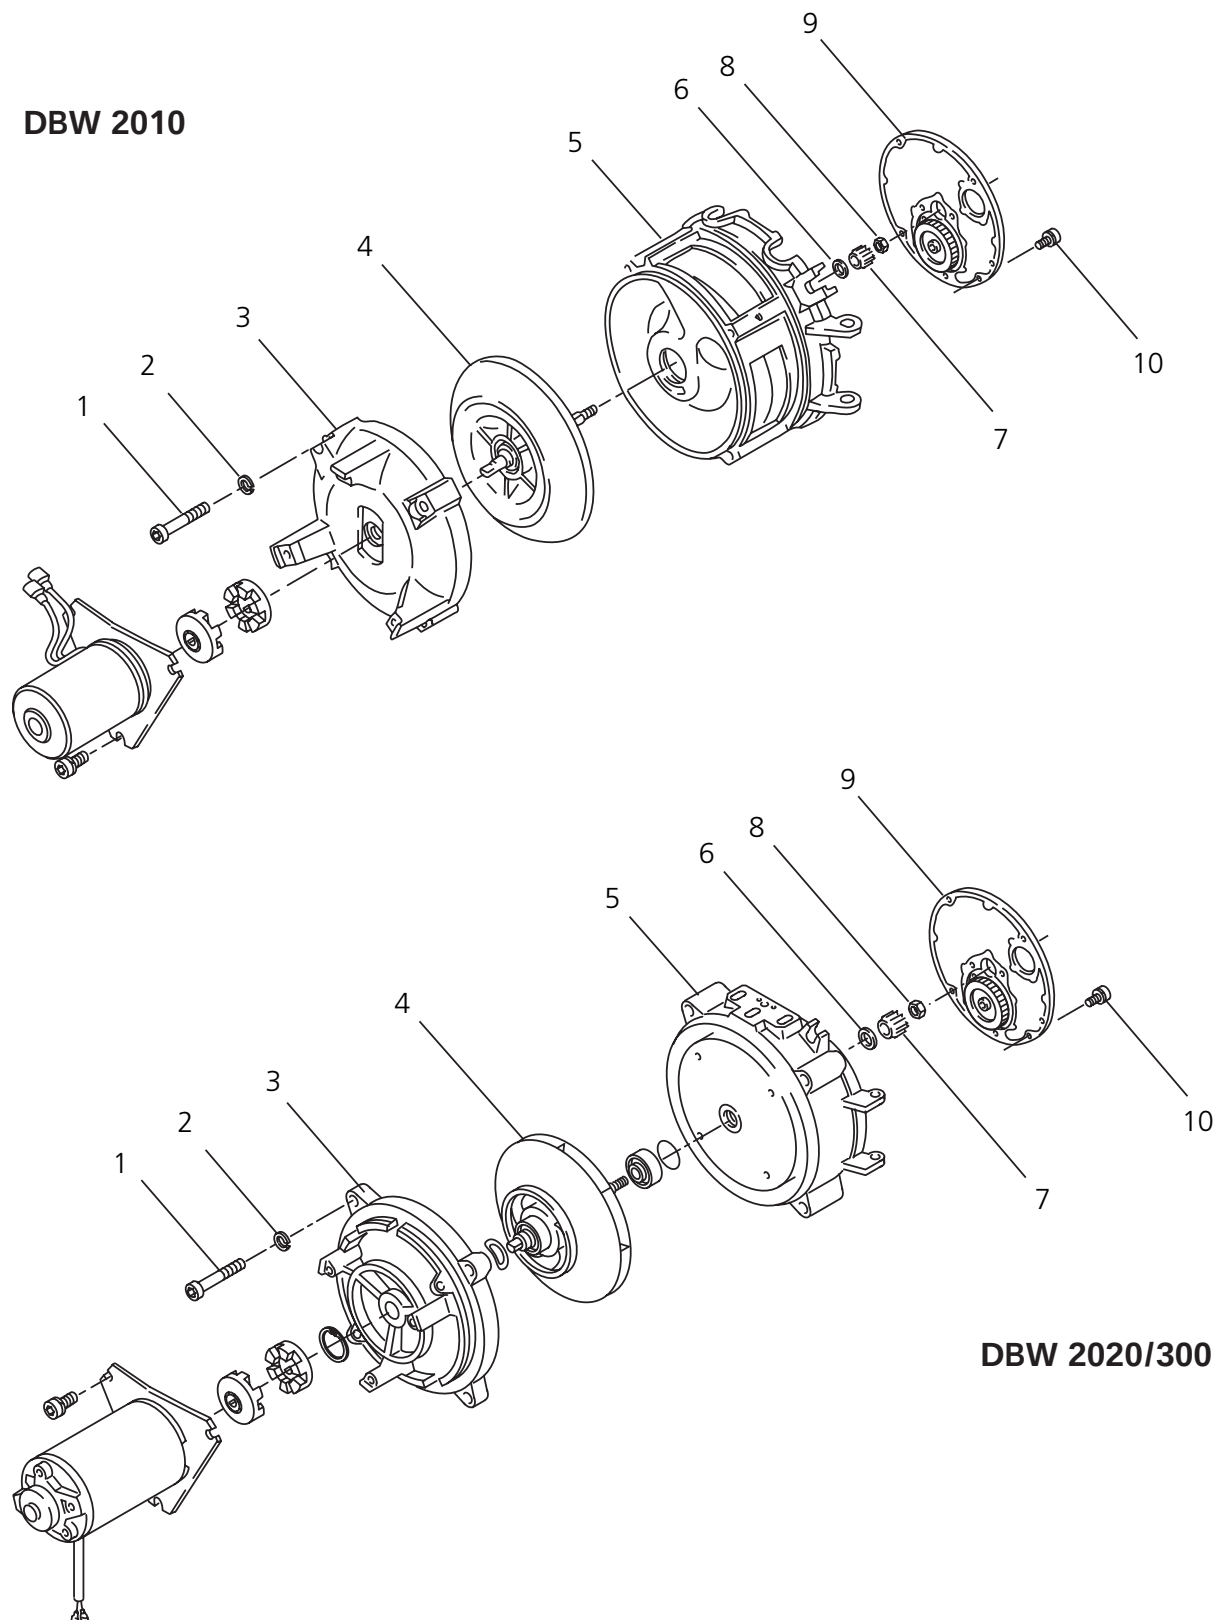

Figure 46: Fan Replacement
6. Remove four Allen Socket screws (item 1, Fig. 46) and washers (2) from motor carrier (3).
7. Remove four screws (10) from nozzle holder plate (9) and pull plate free.
11. Grasp motor carrier (item 3, Fig. 46) and with a slight rocking motion, work the motor carrier and fan (with bearing), free from housing (5).
2. Push fan with shaft through bearings and spacer of housing (item 5, Fig. 46)
3. Install washer (6), drive gear (7) and lock-nut (8).
6. Make sure O-ring (item 10, Fig. 48) in bearing recess of housing (item 5, Fig. 46) is present and in place.
7. Push fan assembly into housing (5) until motor carrier (3) is fully seated.
8. Install motor carrier (item 3, Fig. 46) over fan (4).